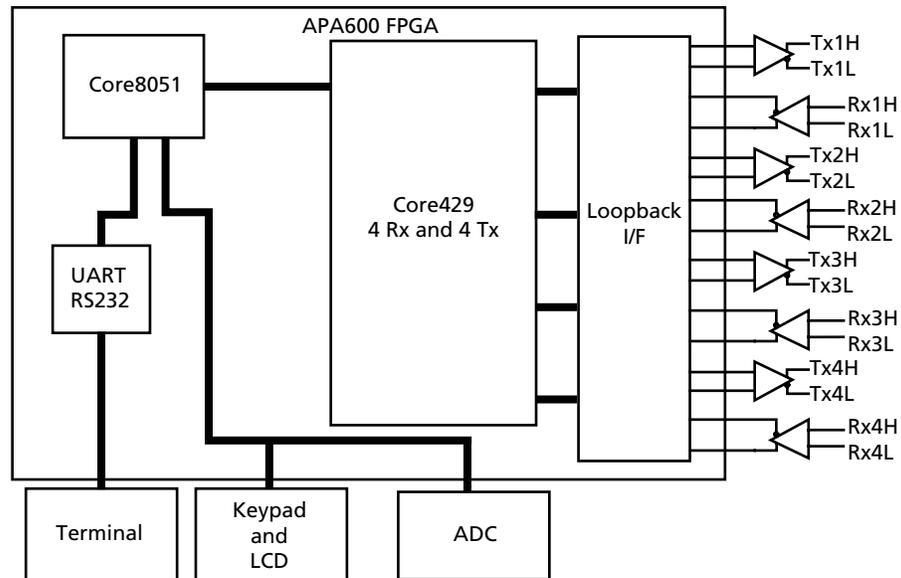

Figure 1-4. Core429 Development System
A complete ARINC 429 development system is also available, Actel part number Core429-DEV-KIT. The development system uses an external terminal (PC) with a serial UART link to control Core429 with four Rx and four Tx channels implemented in a single ProASIC^{PLUS} APA600 FPGA. Figure 1-4 shows the development system.